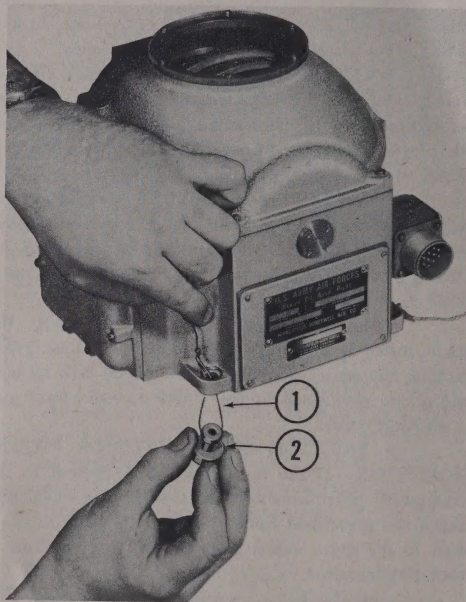

Figure 235 — Inserting Rubber Grommet
5. **GUIDE CHANNEL ROLLER BINDS IN CHANNEL.**—Recheck the force necessary to move the gyro spindle from one limit of travel to the other, as described in this section, paragraph 2, *e*, (30). Watch closely for any variation in the gram gage reading that might indicate bad bearings, or a point where the guide roller binds in the guide channel.
(37) INSERT RUBBER GROMMET, AND INSTALL SHIPPING COVER.
(a) Using a loop of wire (1, *figure 235*) through the holes in the housing, provided for the rubber mounting grommet, pull each of the four rubber mounting grommets (2) into place.